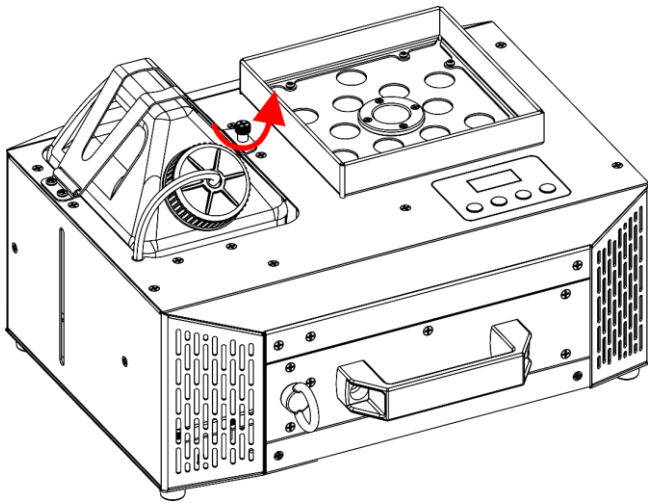

Fig. 28
- 02) Unscrew the **safety screw for tank bracket (04)**, as shown in Fig. 28.